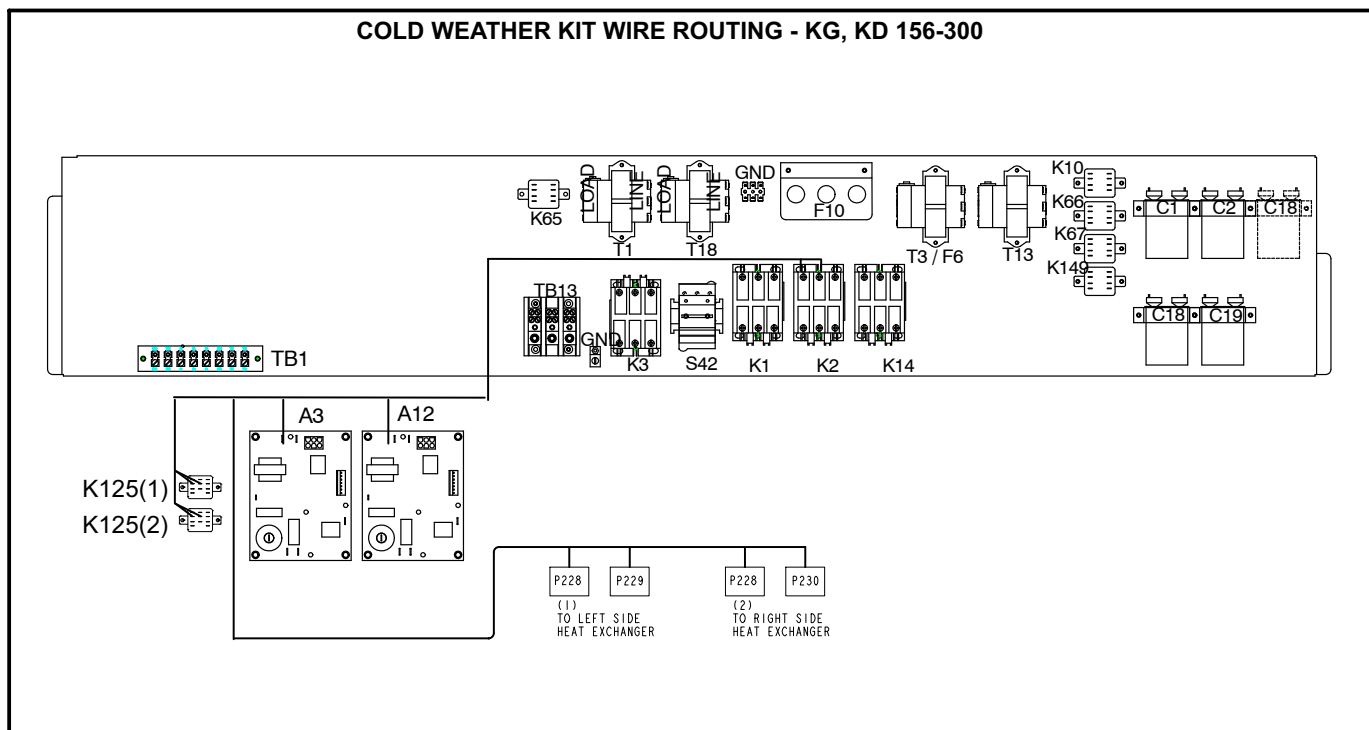

FIGURE 17
- 3- Install both K125 relays in control area above compressors. Secure with #8 screws. See figure 17.